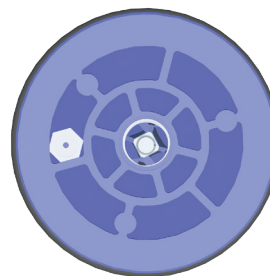
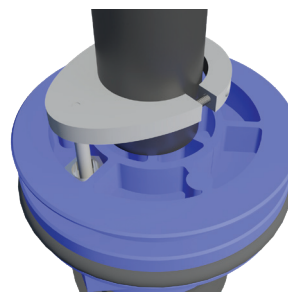

Figure 32
Figure 33
F.9) Make sure the actuator pin of the Auto Equalization adapter is aligned with the stainless-steel check valve located on the top of the valve cartridge (see Figure 32). Press the actuator pin of the Auto Equalization adapter down as far into the check valve as possible to ensure check valve is open. Tighten the two Auto Equalization cap head screws securing the adapter in place (see Figure 33).